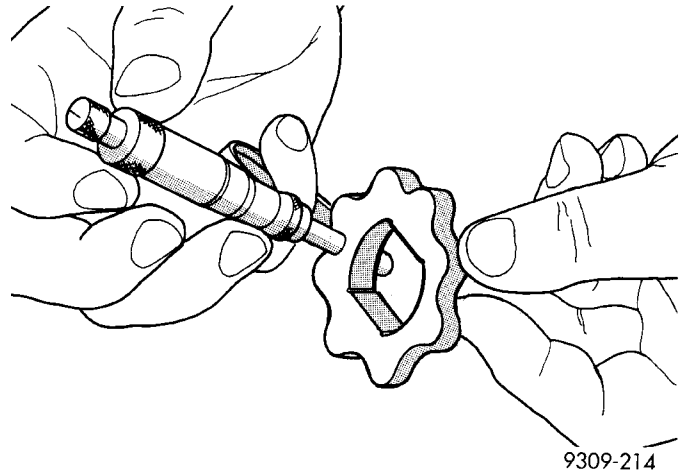

Fig. 103 Measuring Inner Rotor Thickness
(4) If inner rotor measures 7.64 mm (.301 inch) or less replace inner rotor (Fig. 103).